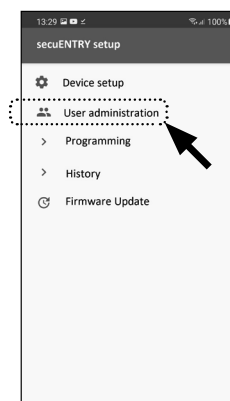

Fig. 29
- 3 Tap on "User administration" in the submenu (Fig. 29).